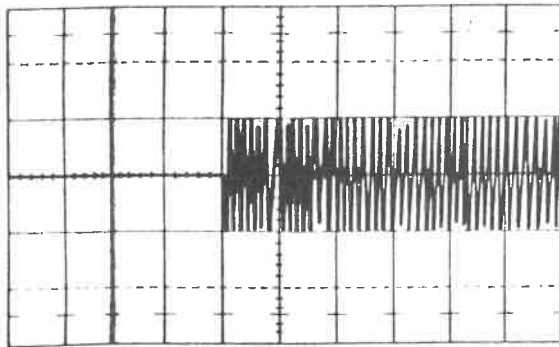

FIGURE 3-6. Data Burst Waveform
4. The data burst display should be adjusted as shown in Figure 3-6.